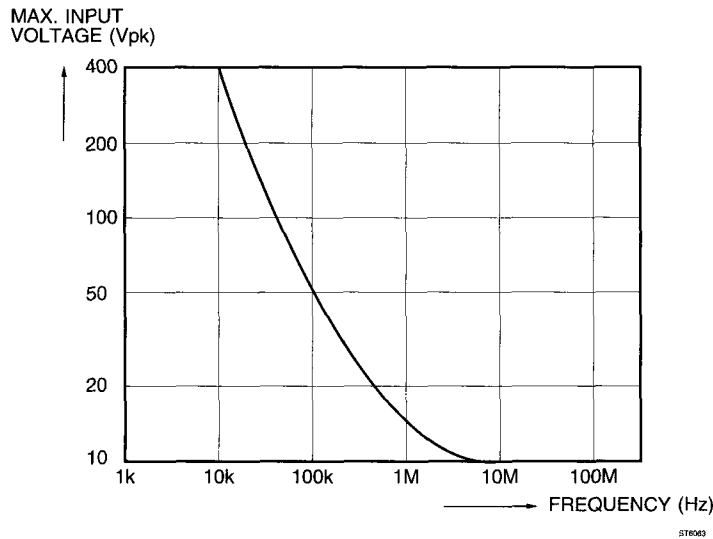

Figure 2.2 Max. input voltage versus frequency
*Note 2: Up to 10 KHz; >10 kHz see figure 2.2*